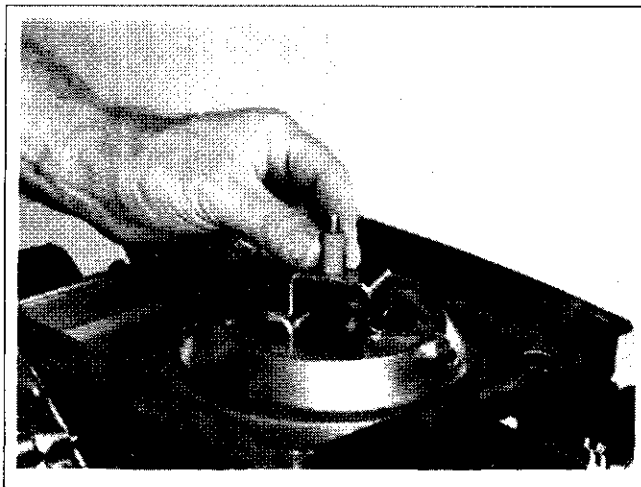

Figure 9-8. Removing Air Cleaner Base Retainer.
4. Remove the hex. flange screws securing the bracket and base. See Figure 9-8.